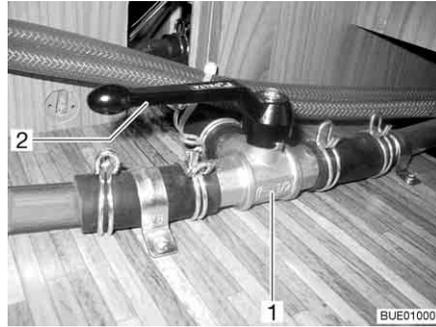

Fig. 172 3-way valve
- Set the lever (Fig. 172,2) of the 3-way valve (Fig. 172,1) parallel to the straight flow direction (Fig. 172).
- Set the lever (Fig. 172,2) of the 3-way valve (Fig. 172,1) transverse to the straight flow direction.